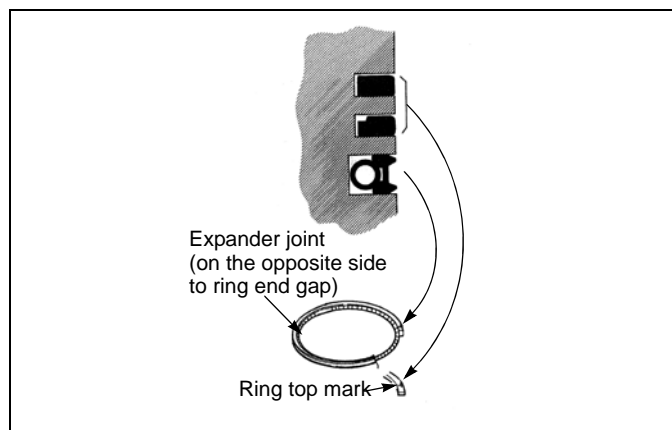

Fig. 3-18
- Piston ring installing procedure: Install the piston ring to the piston as shown in Fig. 3-18.